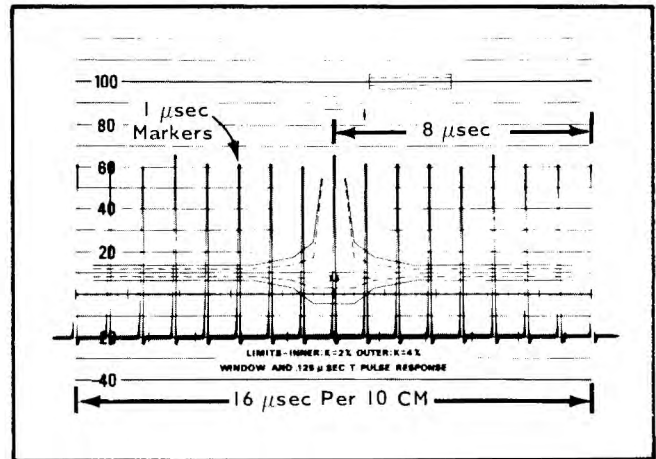

Fig. 6-21. Checking the $\times 5$ sweep timing.
- Check for $16\ \mu\text{s}$ of sweep time per 10 cm (see Fig. 6-21). Sweep-timing tolerance should be within $\pm 3\text{ mm}$.